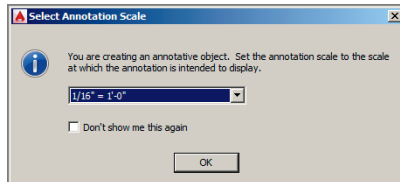

FIGURE 13.2 Selecting an annotation scale in model space
4. Click the Multiline Text tool in the Annotation panel on the ribbon's Home tab. Select $1/16'' = 1'-0''$ (or 1:200 for metric) from the drop-down menu in the Select Annotation Scale dialog box that appears (see Figure 13.2). Click OK.